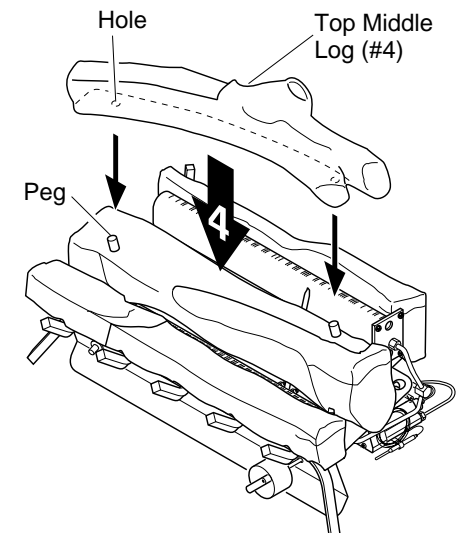

Figure 19 - Installing Crossover Log (#4)
4. Place the top middle log (#4) on the bottom middle log (#2). Make sure the pegs of the bottom middle log fit securely in the holes of the top middle log (see Figure 19).